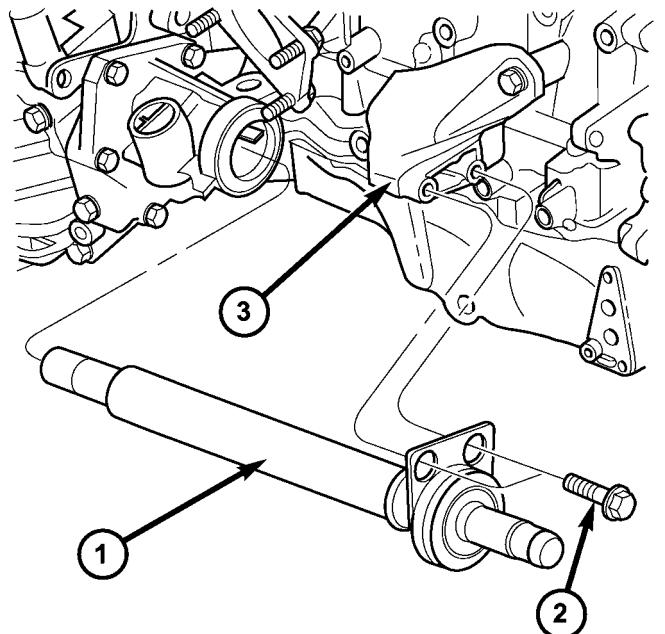

Fig. 1 Intermediate Shaft/Bearing Assembly—2.4L Turbo Models
- (1) Remove passenger side halfshaft assembly. (Refer to 3 - DIFFERENTIAL & DRIVELINE/HALF SHAFT - REMOVAL)
- (2) Remove two (2) intermediate shaft bearing-to-bracket bolts (Fig. 1).
- (3) Slide intermediate shaft/bearing assembly out of transaxle (Fig. 1).
- (2) Install intermediate shaft into position (Fig. 1). Install two (2) intermediate shaft bearing-to-support bracket bolts and torque to 28 N·m (250 in. lbs.).
- (3) Install passenger side halfshaft (Refer to 3 - DIFFERENTIAL & DRIVELINE/HALF SHAFT - INSTALLATION).